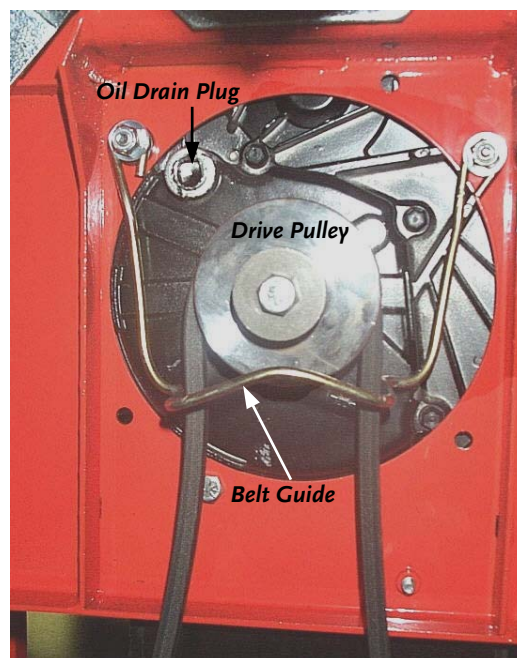

Figure 14
- SAE 30 High Detergent (HD) Oil (for winter use, use SAE 5W – 30W)
1. Using a 3/8" Ratchet and extension, remove the Oil Drain Plug from the bottom of the Engine (**Figure 14**) and drain the oil.
7. Remove the Belt from the Drive Pulley under the Engine (**Figure 14** on page 21).
8. Install the new Belt on the Drive Pulley first, then the Transmission Pulley and then the Idler and Clutch Pulleys. Make sure the new Belt is INSIDE the Belt Guide (**Figure 14** on page 21).